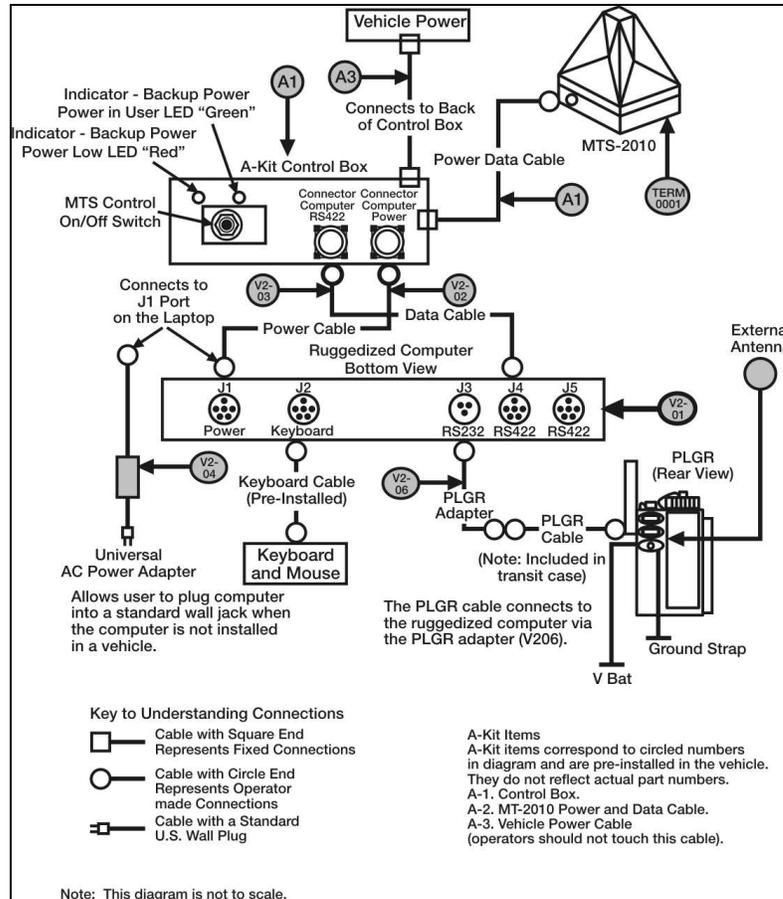
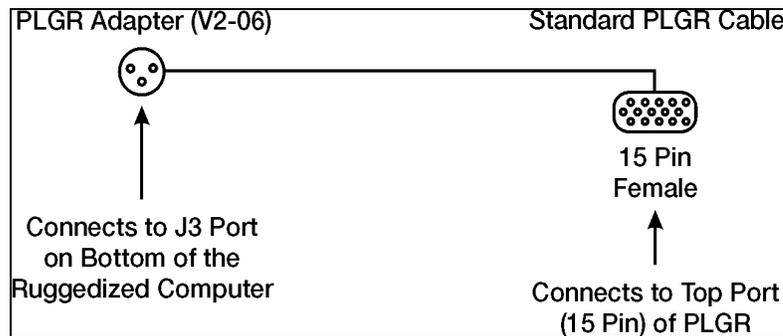

Figure 3-26. Installation of H2 Hardware
Figure 3-27. V2 PLGR Connection
- b. Ensure all cable connections are made properly and system is ready for power on (see Figure 3-26).
- (1) V2 Transceiver (Satellite Modem) MT-2010.
- (2) Ruggedized computer installation to the A-Kit.
- (3) V2 PLGR Installation (see Figure 3-27).